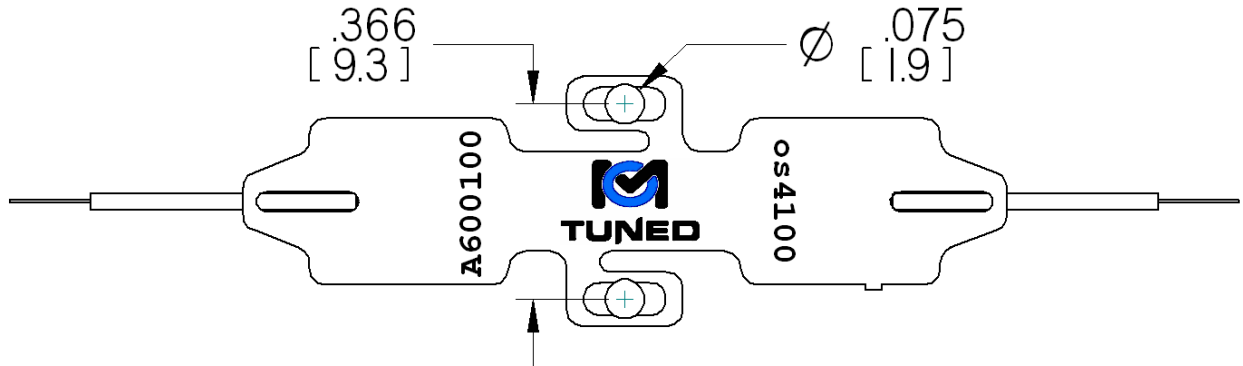

Figure 2 – Sensor Mounting Holes
The os4100 temperature compensation sensor may be fastened to a surface using two screws. The sensor provides two holes .075 inch [1.9 mm] in diameter as shown in Fig. 2. Use screw size 1-72 or M1.6.
1.2. Drill and tap two holes in the test specimen using the spacing shown in Fig. 2.